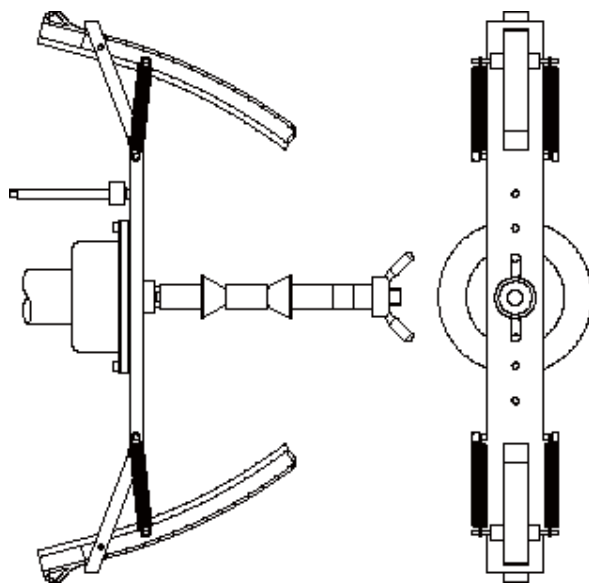

Fig. F4.2 Application of sample weight on the internal side of the motorcycle flange on the shaft (Cal2 phase)
8. At the end of the launch, the machine will display the writing h 1 2 C A L . Apply the calibration weight on the internal side as shown in Figure F4.2. The calibration weight is to be applied on the hole that has the writing "CAL" marked on it;
9. Bring the motorcycle flange in perfect vertical position with the calibration weight at the top part as shown in figure F4.2 and press the [P8]  Start or lower the wheel guard.